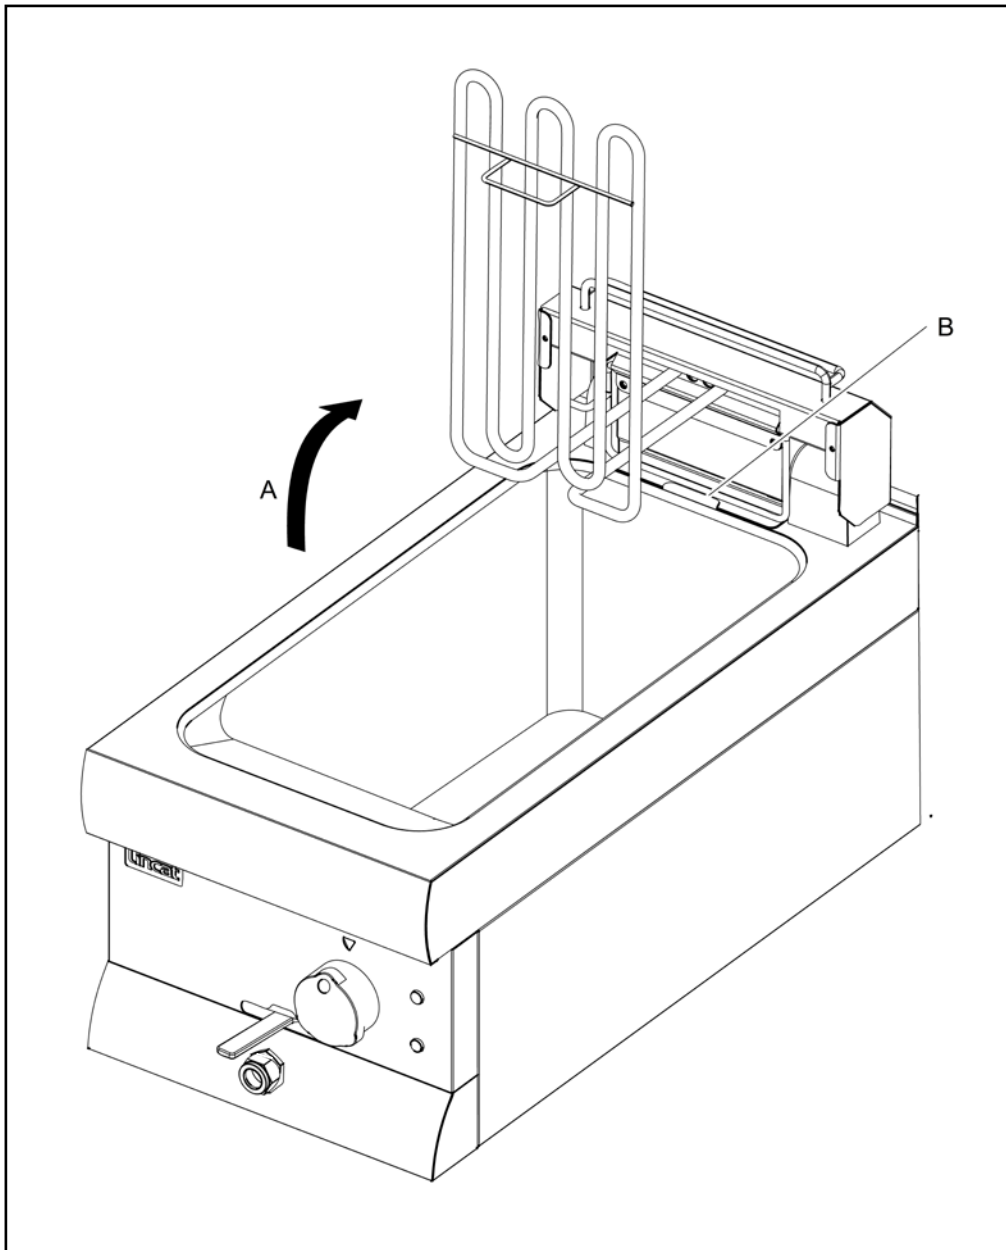

Fig 4
Lift the elements up and back Fig 4 (A) until the stay engages behind the bracket (B).